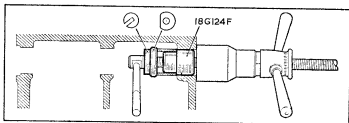

Fig.23 - Front bearing liner - fitting procedure
4. Fit a new front bearing liner, as shown, ensuring the oil holes in the liner are aligned with those in the crankcase, Fig. 23.